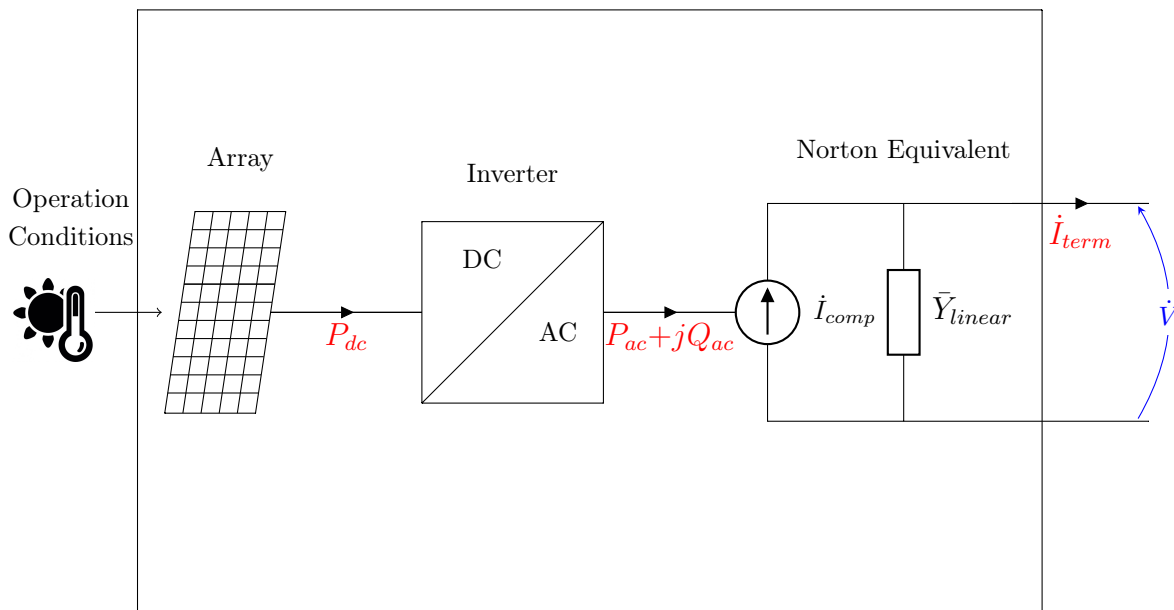

Figure 1: Block diagram of the PVSystem element model
Figure 1 shows a schematic diagram of the PVSystem element model recently implemented into OpenDSS version 8.A.A at Build BB. The model combines the photovoltaic (PV) array and the PV inverter. It assumes that the inverter is capable of tracking the maximum power point (mpp) of the panel quickly, allowing adequate use in QSTS simulations with a time step of at least one second. This considerably facilitates PV modeling and is an adequate simplification for most interconnection impact studies.